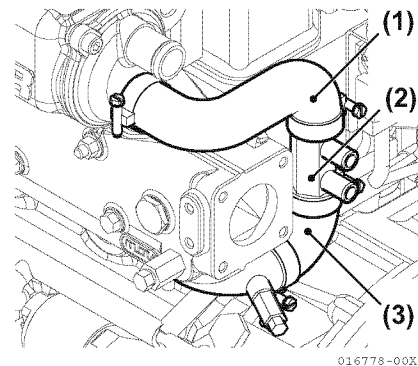
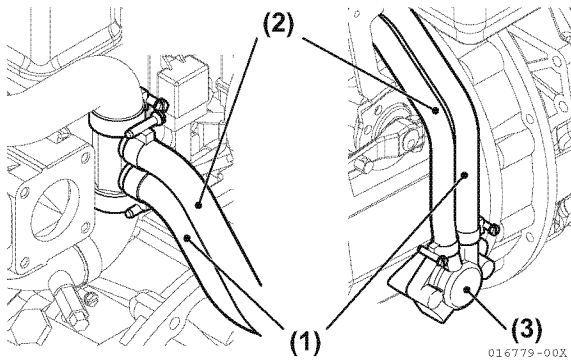

Figure 5-180
Figure 5-181
- When 4JH5E is coupled with KM4A1, seawater pipes for KM4A1 marine gear cooler are shown in (Figure 5-180) and (Figure 5-181).